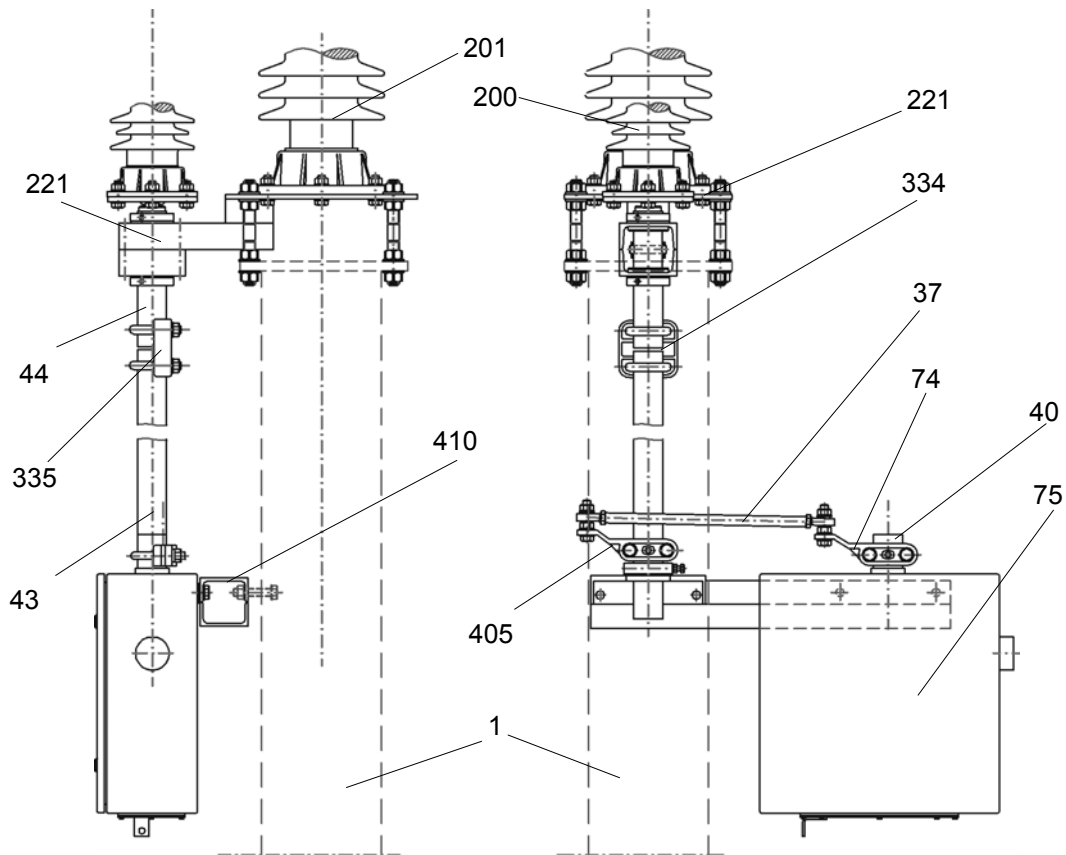

Figure 11 Mounting of operating mechanism for disconnector, operating shaft and pivot bearings, bracket for operating mechanism
- The stop 292 (made of rubber) at the impact plate 355 (Figure 11) must not be painted or treated with a solvent or a paint thinner!